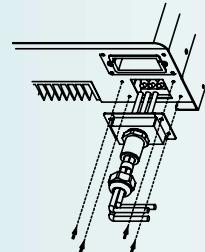

Fig. 11
- Connect the cables as follows (**Fig. 11**):